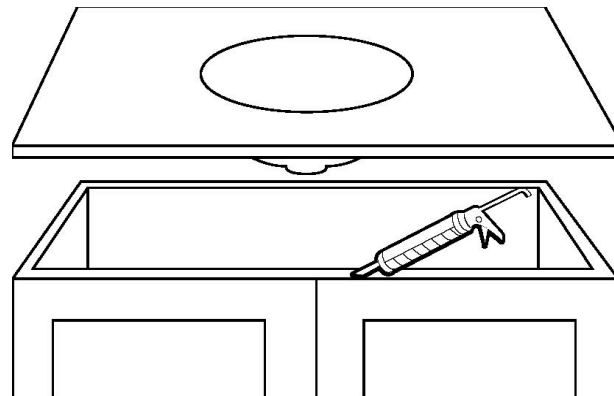

Figure C-10
- Place a 1" (25 mm) spot of silicone adhesive every 12" (305 mm) around the top cabinet support (Figure C-10).